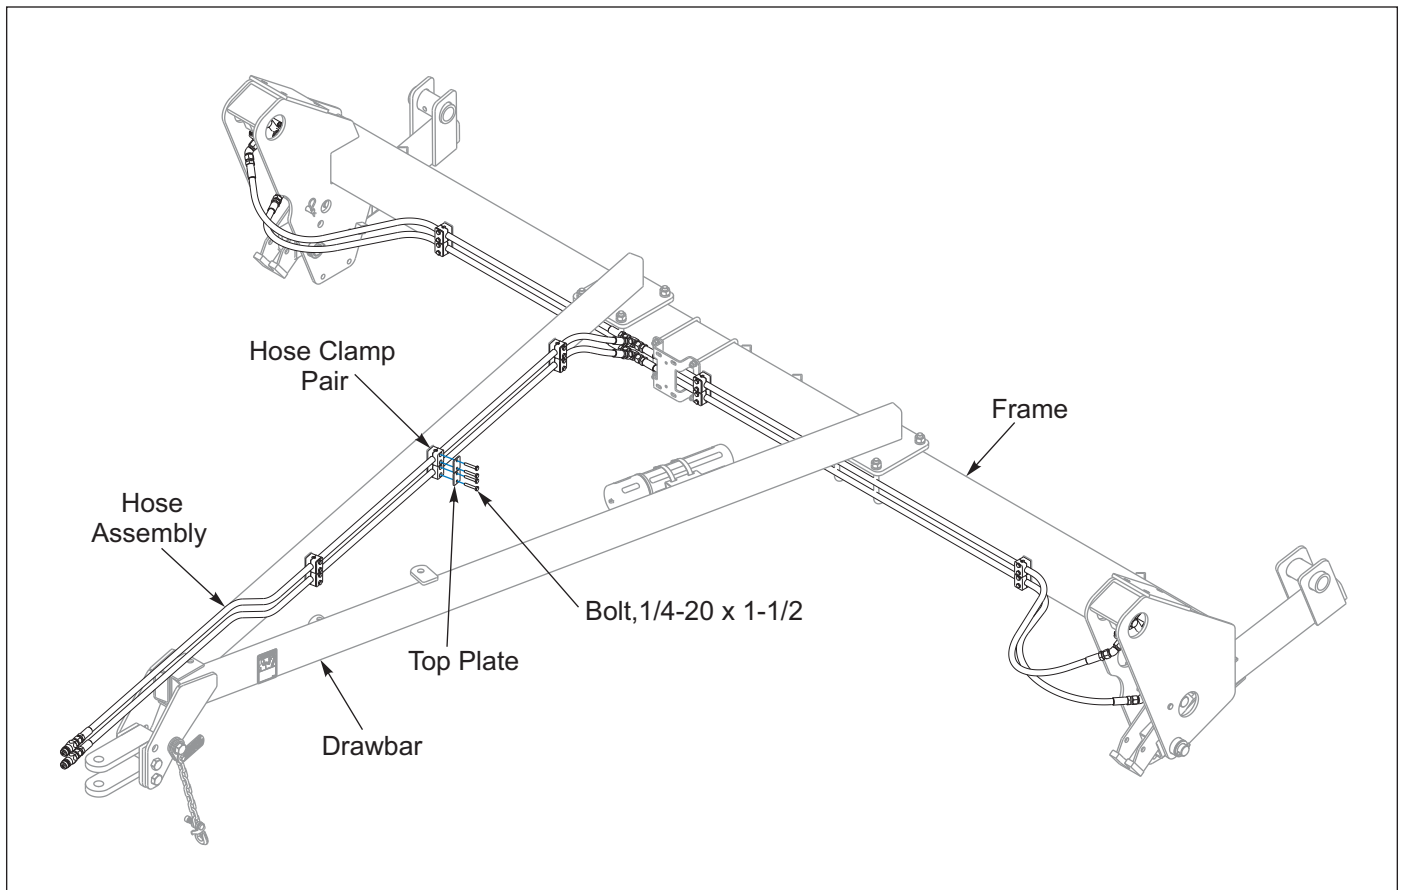

Figure 2-11: Drawbar Hydraulic Hoses
2. Route the Drawbar Hydraulic Hoses along Drawbar toward the Tractor. Secure Hoses to Drawbar with Hose Clamp Pairs, Top Plate and 1/4-20 x 1-1/2 Bolt. See **Figure 2-11**.